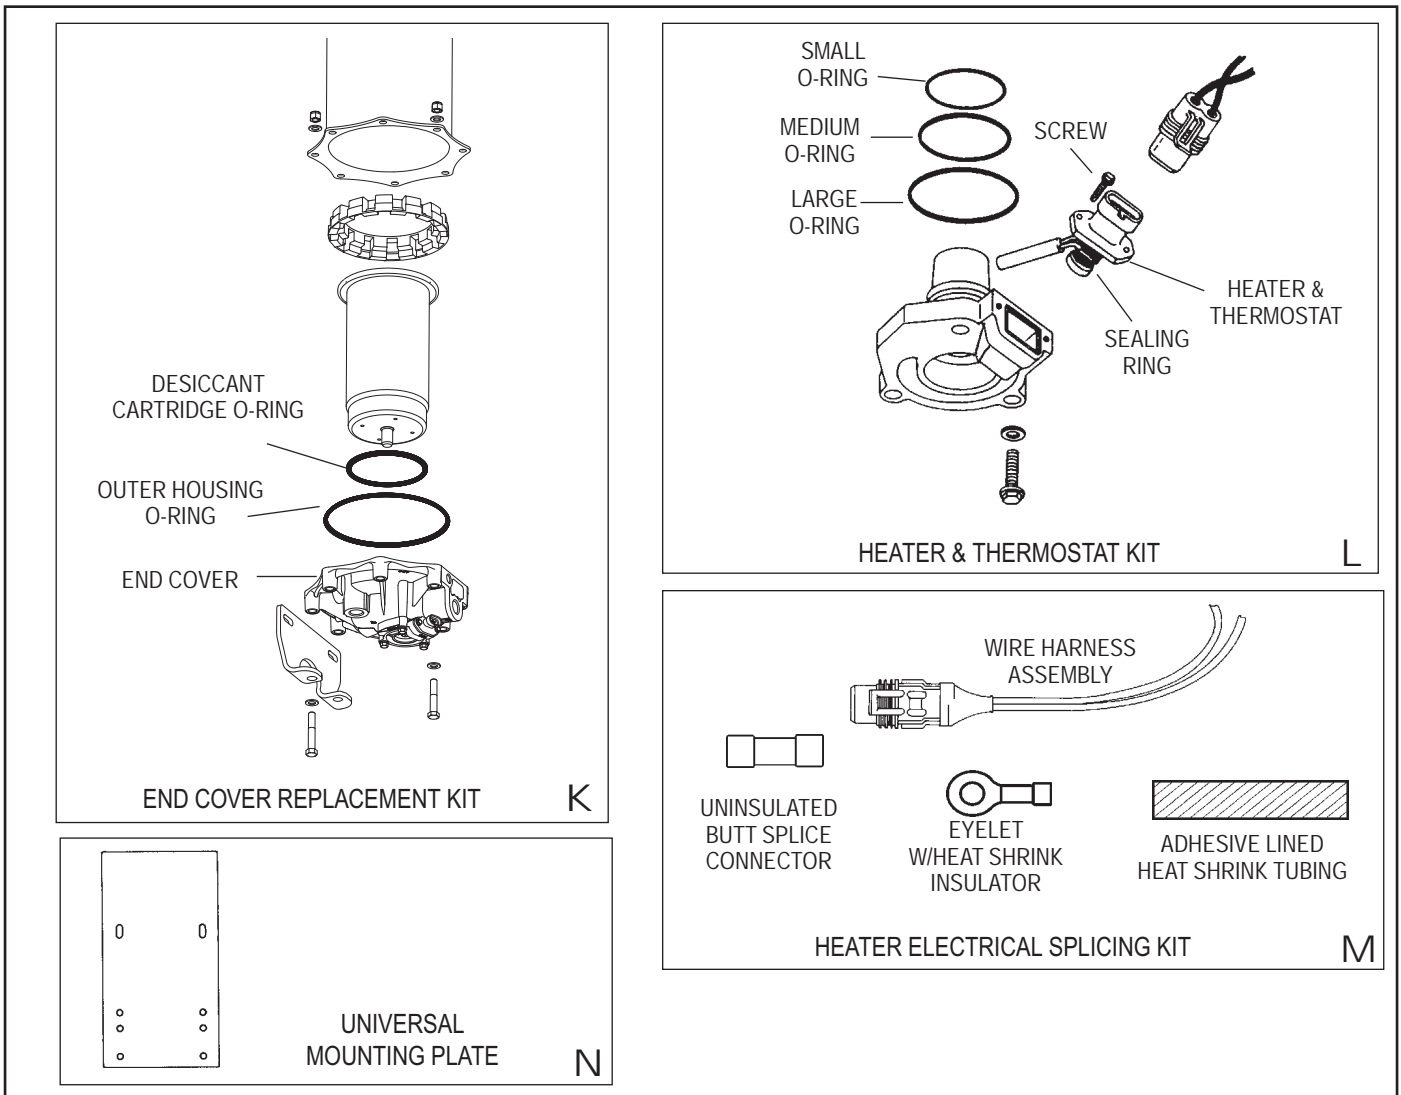

FIGURE 9 - MAINTENANCE KIT CONTENTS (ILLUSTRATIONS K THROUGH M)
1. Remove the two screws that secure the heater and thermostat assembly to the purge valve assembly. See Figure 9, illustration L for kit contents.
1. Remove the remaining six 3/8" cap screws, locknuts and twelve special washers that secure the end cover to the housing air dryer housing. Separate the end cover and desiccant cartridge from the housing. See Figure 9, illustration K.